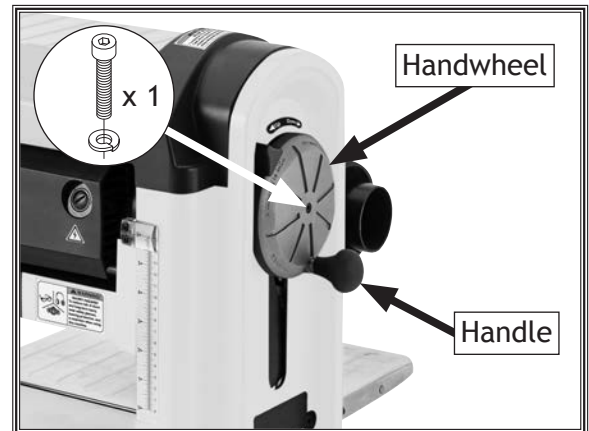

Figure 10. Handle installed on handwheel.
2. Remove cap screw and lock washer (see **Figure 10**) that secure handwheel to internal shaft, and slide handwheel free.
3. Attach handle to handwheel with (1) M5-.8 x 12 cap screw.